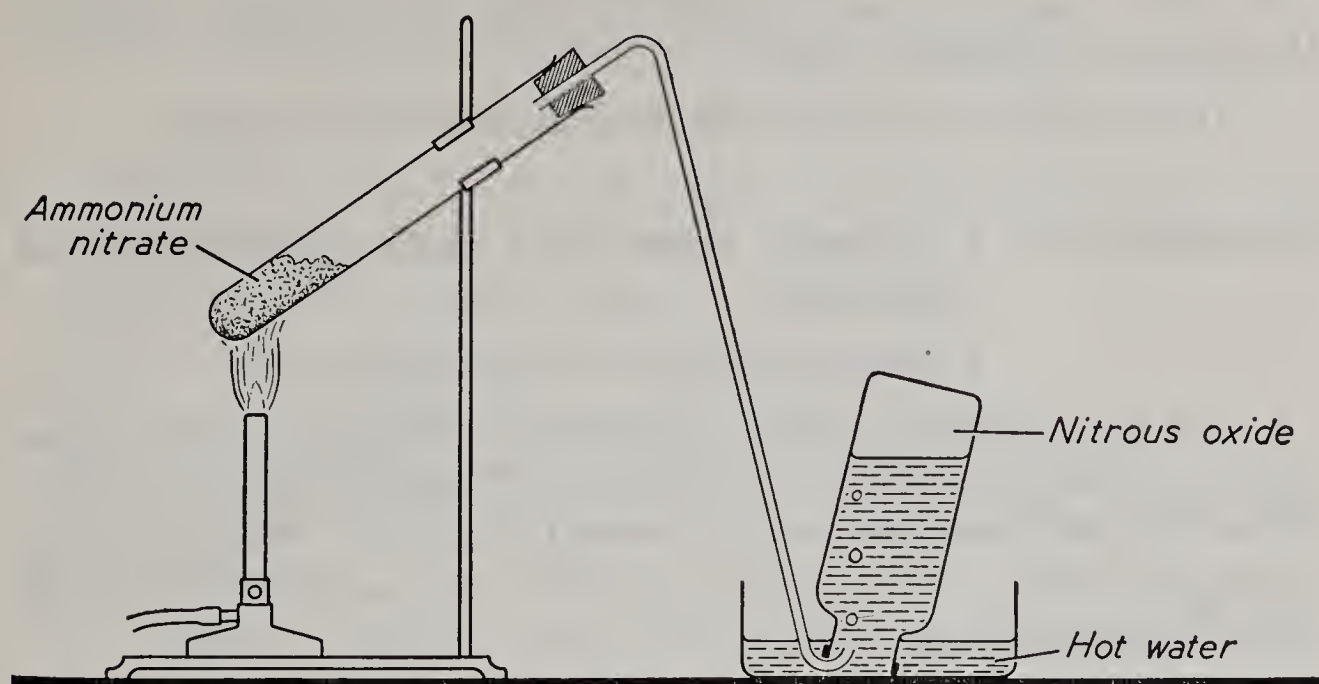

Fig. 73. The laboratory preparation and collection of nitrous oxide (laughing gas).
1. Place about 15 gm. of ammonium nitrate in a Pyrex test-tube and arrange the apparatus as shown in Fig. 73. Heat the ammonium nitrate gently until it melts, being very careful not to overheat.